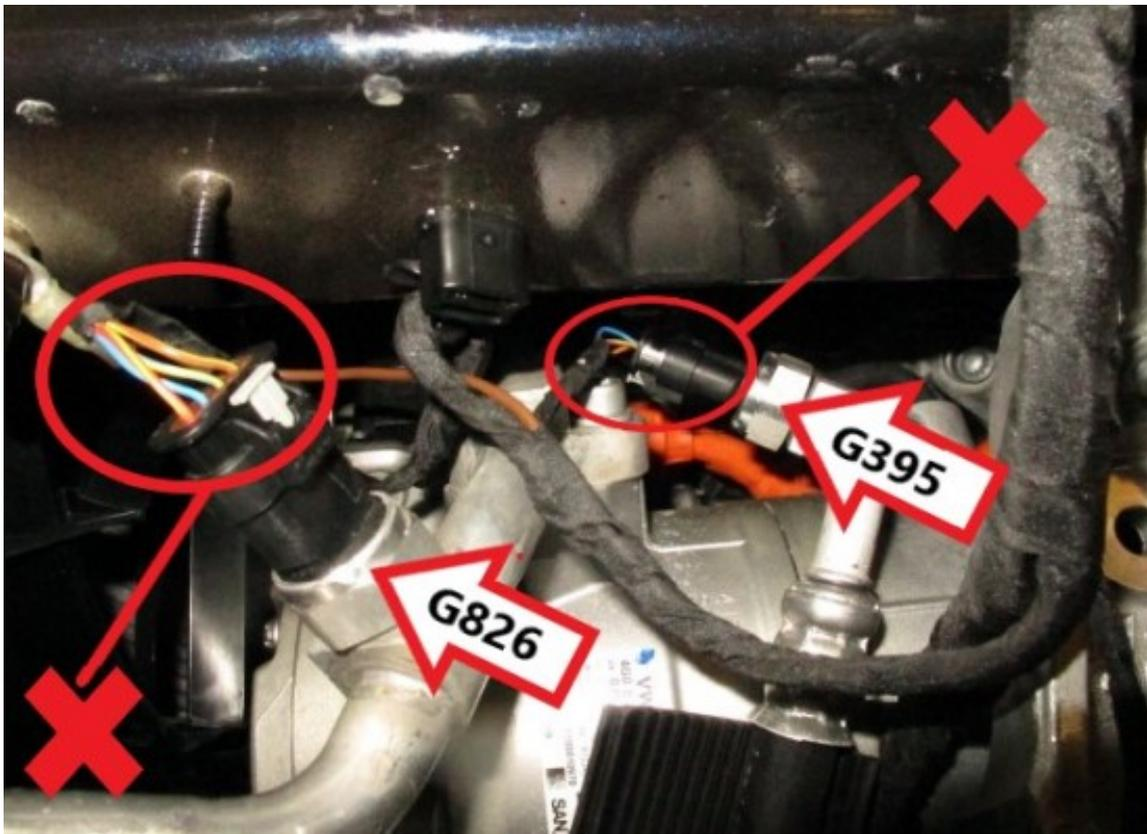

Figure 1
- 4) Access can now be gained to the required connector plugs - Figure 1 shows G826 and G395 with the connector plugs fitted incorrectly